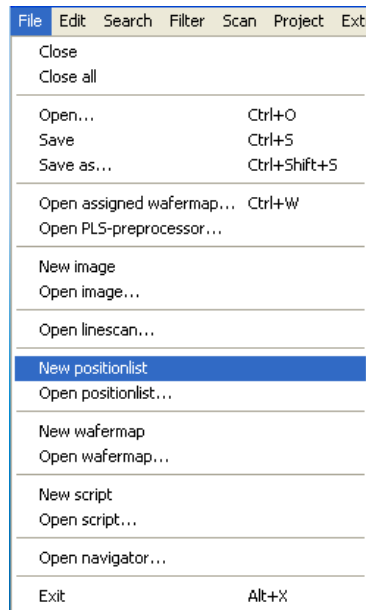

Figure 18: File menu of the Raith e-Line software.
- In order for the beam deflection to be accurate enough for lithography applications (i.e. so that the pattern you write actually has the intended dimensions), the beam deflection needs to be calibrated. This is achieved with the align-write-field procedures which use the interferometric stage as a reference (1.5nm position accuracy). First open a new position list using the file menu (see figure 18).